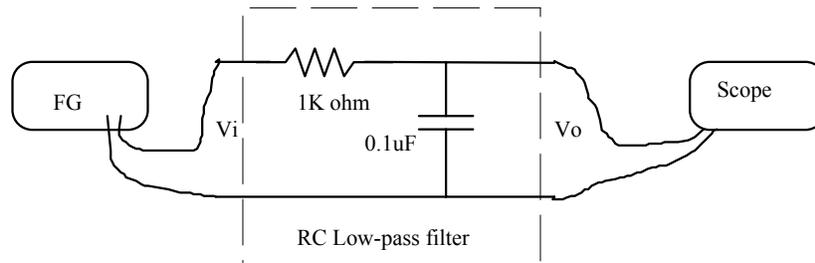

Figure 1 RC low-pass filter
The impedance of a capacitor is $1/(j\omega C)$, a complex quantity, where j is the square root of -1 , ω is frequency in rad/sec (2π rad/sec = 1Hz), and C is capacitance in Farads. The following equation relating input voltage, V_i and output voltage, V_o for the circuit shown in Figure 1 is obtained by using the voltage division formula:
1. Construct the single-stage RC Low-pass filter circuit shown in Figure 1.